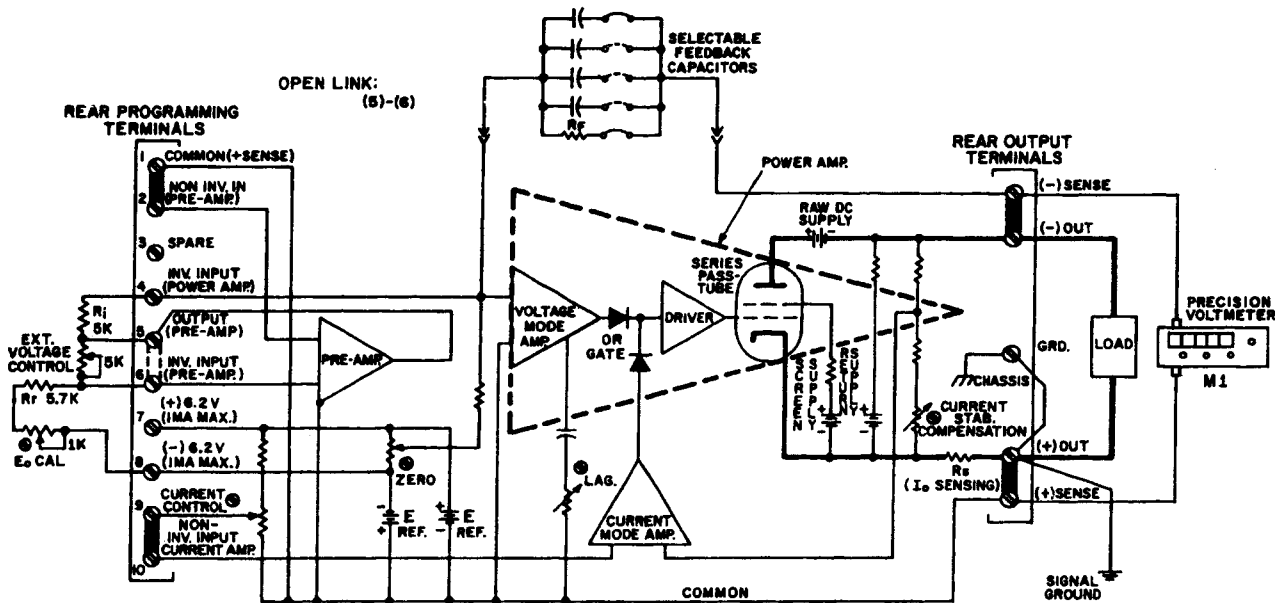

FIG. 3-9 CONNECTIONS FOR OPS OUTPUT VOLTAGE CONTROL BY A LINEAR RESISTANCE.
- 1) Connect the selected feedback resistor ( $R_f$  = EXTERNAL VOLTAGE CONTROL), the reference resistor ( $R_r$  = 6.2 k ohm, Note: Make part of  $R_r$  adjustable for  $E_o$  CAL. control), the LOAD and the OUTPUT VOLTMETER (M1) to the OPS as shown in FIG. 3-9. NOTE: FOR INTERCONNECTION DETAILS AND PRECAUTIONS, TURN TO THE "WARNING" PARAGRAPH ON PAGE 3-3.